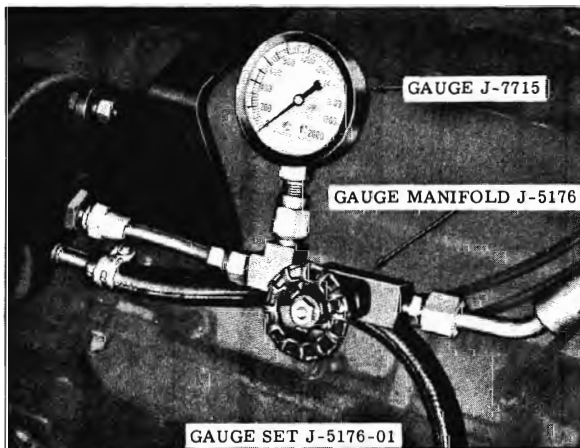

Fig. 4-110 Oil Pressure Gauge
<ol style="list-style-type: none"> <li>1. Loose pump belt. (P.S.)</li> <li>2. Low oil level in reservoir. (P.S.)</li> <li>3. Lack of lubrication in ball joints or steering linkage.</li> <li>4. Tires not properly inflated.</li> <li>5. Insufficient oil pressure. (P.S.)</li> </ol>	<ol style="list-style-type: none"> <li>1. Adjust to specification.</li> <li>2. Fill to proper level. If excessively low, check all lines and joints for evidence of external leakage.</li> <li>3. Add lubricant.</li> <li>4. Inflate to recommended pressure.</li> <li>5. If all of the above checks do not reveal the cause of hard steering, make the following tests of oil pressure. <ol style="list-style-type: none"> <li>a. Disconnect the pressure line at pump, then install Gauge Set J-5176-01. (Fig. 4-110)</li> <li>b. With engine at slow idle and gauge valve open, note the oil pressure on the gauge while turning steering wheel from one extreme position to the other. Especially note the maximum pressure which can be built up with the wheel held in either right or left extreme position.</li> </ol> <p style="text-align: center;">CAUTION: Do not hold wheel in extreme position for an extended period of time because it will drastically increase</p> </li> </ol>
- c. With oil temperature between 150° F. and 170° F. (measured with a thermometer in the reservoir) oil pressure should not be less than 1,100 p.s.i. for satisfactory power steering operation. (Fig. 4-110)
- (1) First test (step b) pressure low, and second test (step d) pressure normal - indicates faulty hoses or steering gear.
- (2) First test (step b) and second test (step d) pressure equally low - indicates faulty oil pump.